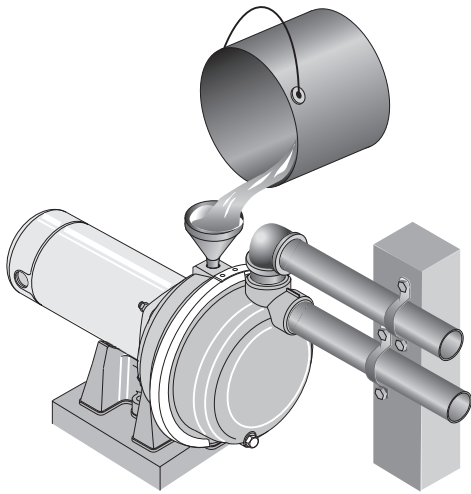

Figure 5 - Fill Pump Before Starting
3. Fill pump and suction pipe with water (Figure 5).